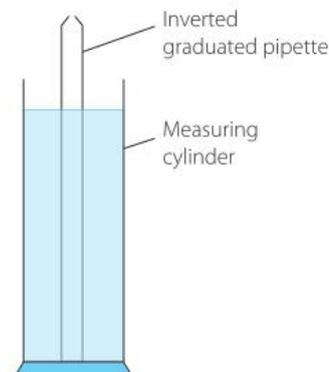

FIGURE 2.11
- 4 Turn the 10 mL graduated pipette upside down and place it into measuring cylinder A so the large opening is in the measuring cylinder and allow it to fill with water (Figure 2.11).